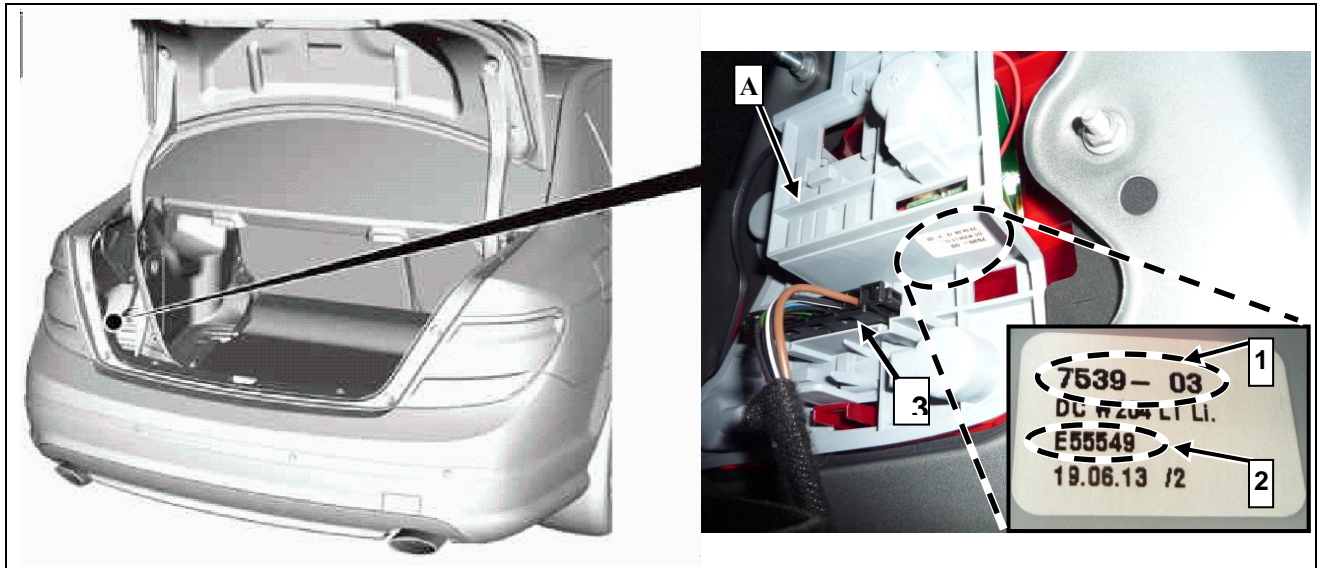

Figure 1
1. Check object number (1, Figure 1) and index (2) on sticker affixed to lamp carrier (A) on left and right tail lamp:
- If object number (1, Figure 1) and the index (2, Figure 1) are **not** present (on sticker) as specified in the table below (**NOT OK**): Proceed to Subject B.
- If object number (1, Figure 1) and the index (2, Figure 1) **are** present on sticker as found in the table below (OK): Procedure is complete.